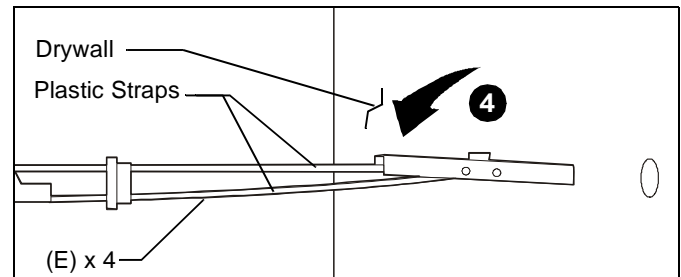

Figure 3
4. Hold metal channel on 1/4-20 toggler anchor (E) flat alongside plastic straps and slide channel through pilot hole. (See Figure 3)